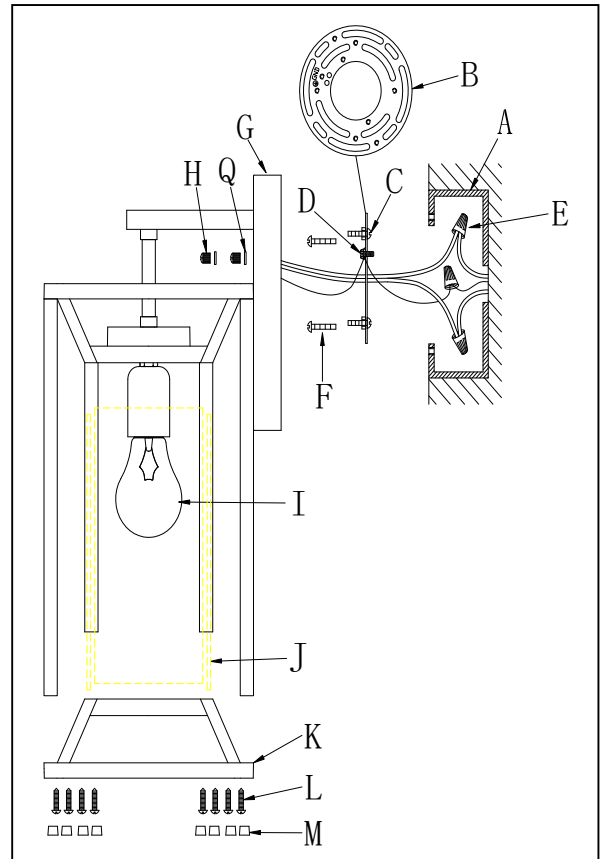

Fig.2
## CONNECTING THE WIRES (Fig. 2)
5. Connect the electrical wires as shown in Fig 2. with connectors (E), making sure that all wire connectors are secured. If your outlet box has a ground wire (green or bare copper), connect the fixture's ground wire to it. Otherwise, connect the fixture's ground wire directly to the mounting plate (B) using the green screw (D) provided. After the wires are connected, carefully tuck them inside the outlet box.